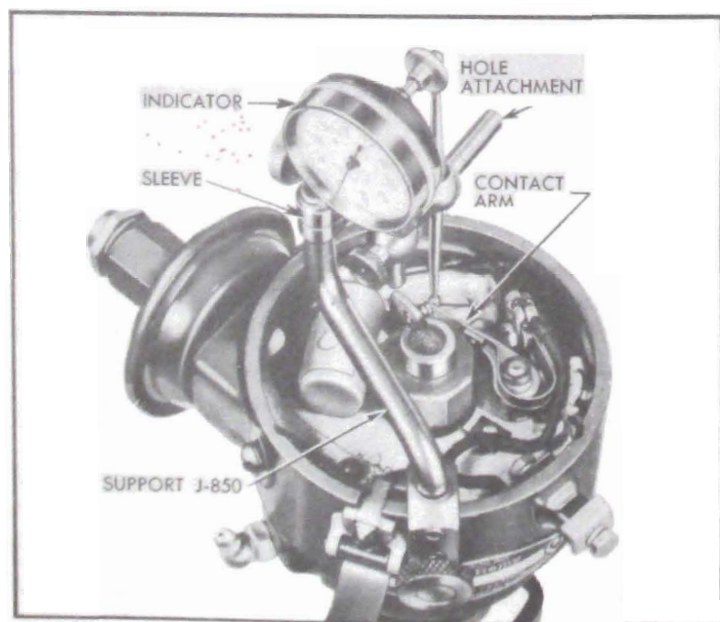

Figure 10-72—Checking Point Opening with Dial Indicator
1. Mount dial indicator so that it will measure movement of breaker arm at the contact point as shown in figure 10-72. Set indicator at zero with contact points fully closed.